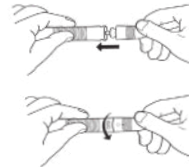

Figure 1
- ALWAYS turn the Power Pack off before connecting or disconnecting the battery cable to or from the LED surgical headlight (Figure 1).